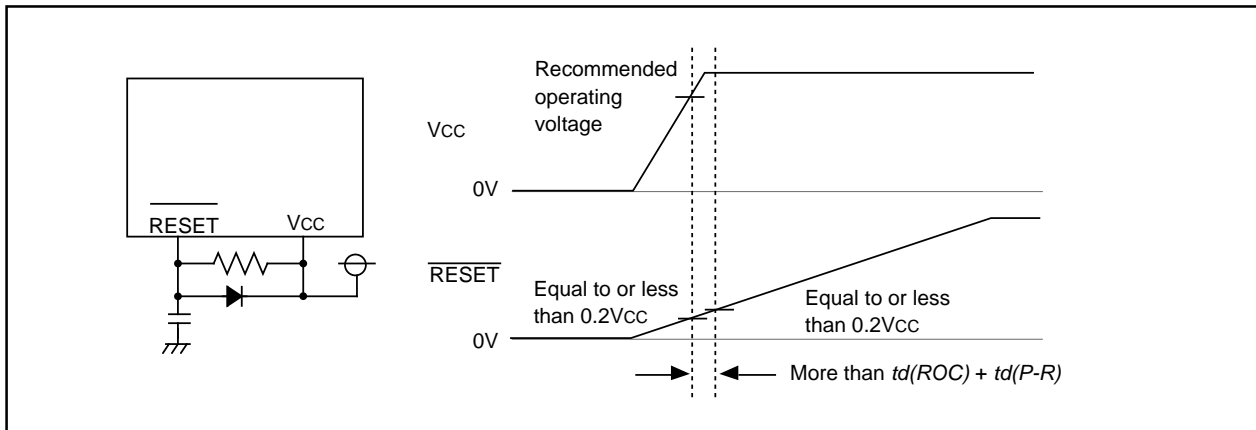
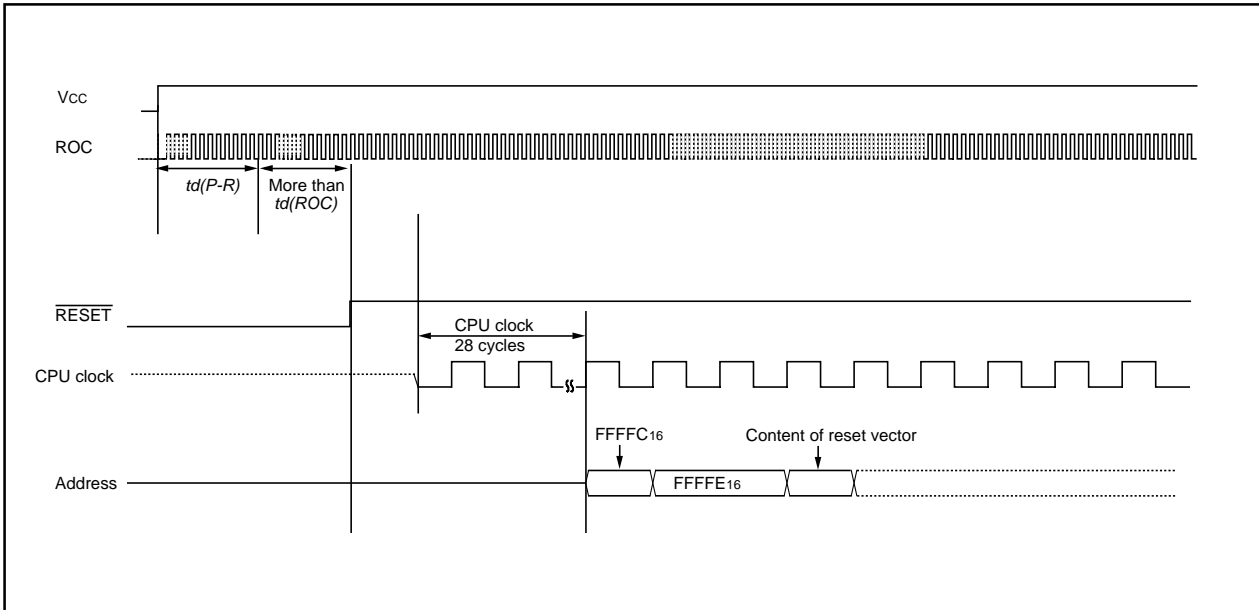
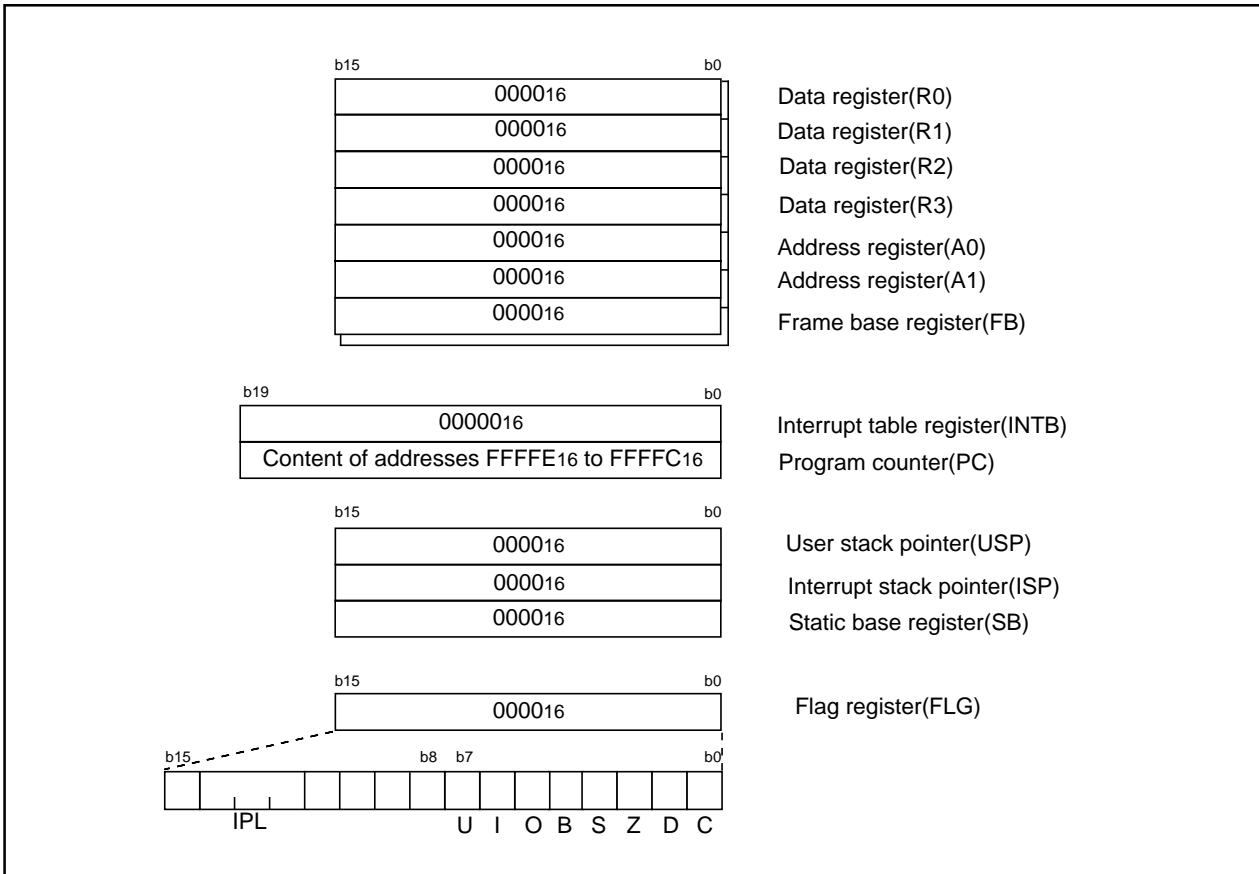

Figure 5.1 Example Reset Circuit
Figure 5.2 Reset Sequence
Figure 5.3 CPU Register Status After Reset
**Figure 5.1** shows the example reset circuit. **Figure 5.2** shows the reset sequence. **Table 5.1** shows the status of the other pins while the  $\overline{\text{RESET}}$  pin is held “L”. **Figure 5.3** shows the CPU register status after reset. Refer to **4. Special Function Register (SFR)** for SFR status after reset.